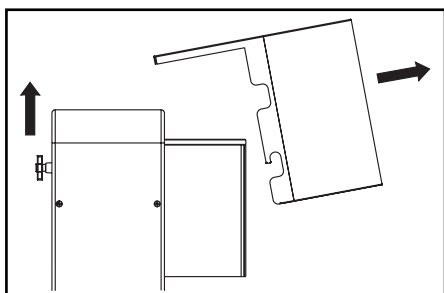

Fig 1C
5. Tilt cover as shown and remove. Fig. 1C